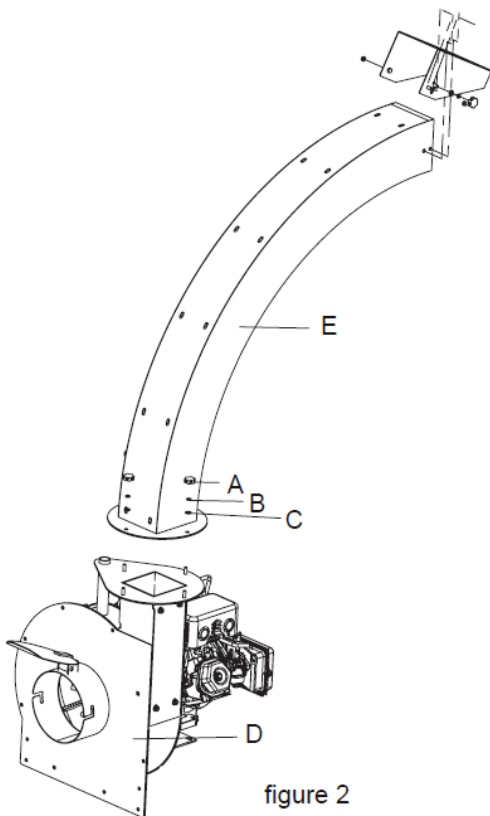

figure 2
Install the discharge chute (E) to the housing by attaching the knob (A) through the spring washer (B) and the flat washer (C). See figure 2. The chute's opening direction can be adjusted during installation per the operation's needs.